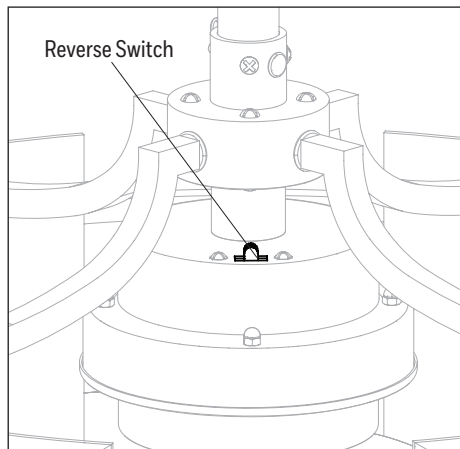

Figure 6.2
2. Using a ceiling fan will allow you to raise your thermostat setting in summer and lower your thermostat setting in winter without feeling a difference in your comfort (Figure 6.2).